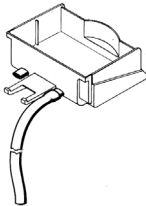

figure 1
**8** Each drip tray has two diaphragm plugs: if a continuous drain is needed, perforate one of the drain plugs and connect it to a flexible drain line (see figure 1).